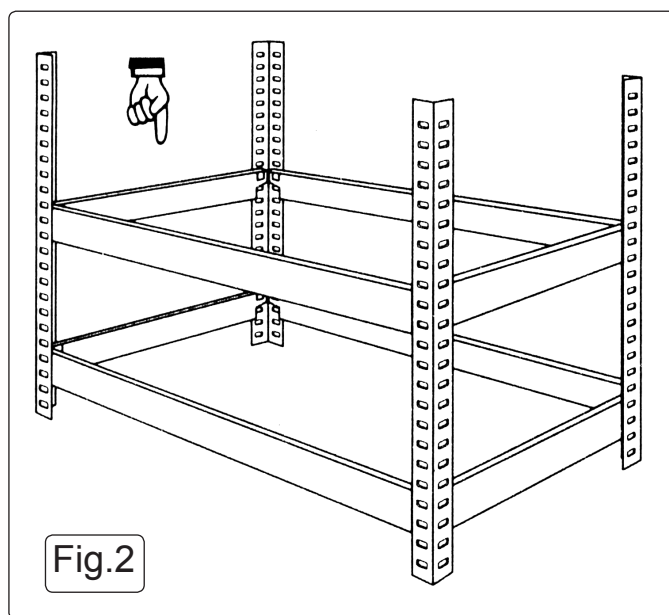

Fig.2
- 4.3** See Fig.2. Decide on the height of the second shelf. Fit another 2 short shelf supports at the desired height then fit 2 long shelf supports at the same height.